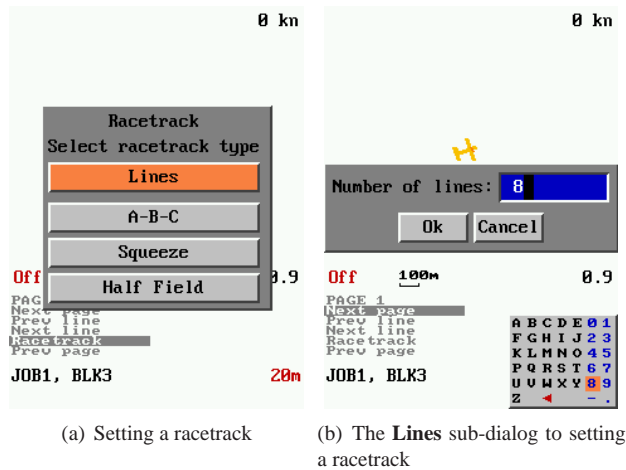

Figure 4.16: Dialog boxes to set a racetrack size
2. Select the racetrack command and a dialog box (figure 4.16(a) ) will appear prompting you to choose racetrack type.
2. Select the racetrack command and a dialog box (Figure 4.16(a)) will appear prompting you to choose racetrack type.
1. Select the racetrack command and a dialog box (Figure 4.16(a)) will appear prompting you to choose racetrack type.